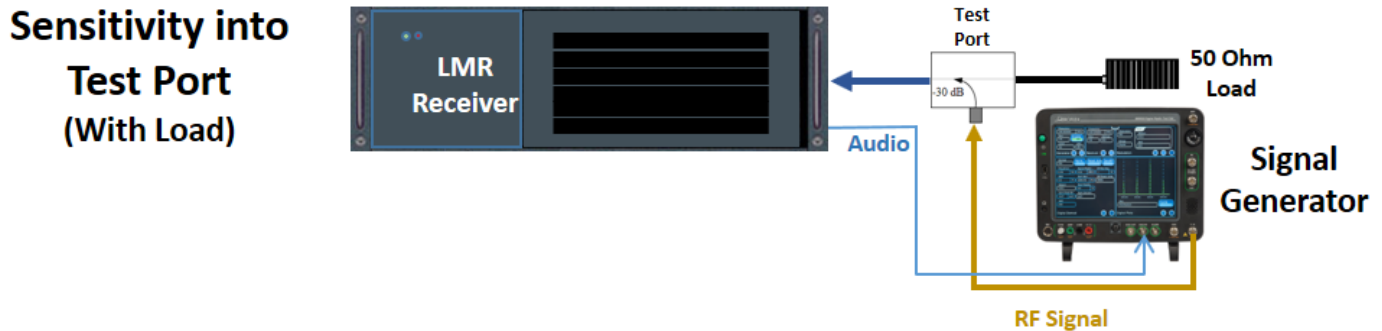

Figure 6: Test Port Sensitivity with a load
- **Test Port Sensitivity (With 50 Ohm load)** (*Figure 6*) – To measure sensitivity under actual operation requires a reference. This is taken with a sampling or test port. The test port allows non-intrusive testing without disturbing the system operation. The first step is to measure the signal level required for the testing methodology ($SINAD^{Analog}$ or $5\% BER^{Digital}$) into the test port while connecting the output to a 50-Ohm load. Some TTA systems allow the 50-Ohm load to be switched in and out for testing. The 50-Ohm load provides the reference and is equivalent to the Static Sensitivity adjusted by the coupling loss (Normally 30 dB). After establishing the reference test port sensitivity, it can be documented and used in the future without disturbing the system. Remember that the system is off the air when the 50-Ohm load is switched in. Always measure the static